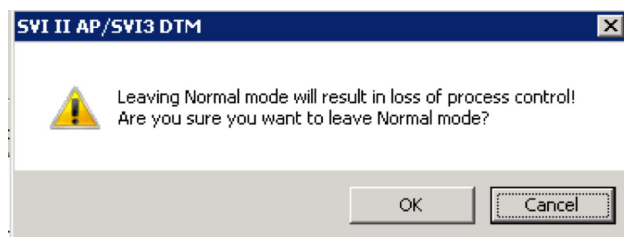

Figure 27 - Leaving Normal Mode
- Click the mode. When leaving *Normal* mode a dialog appears (Figure 27).